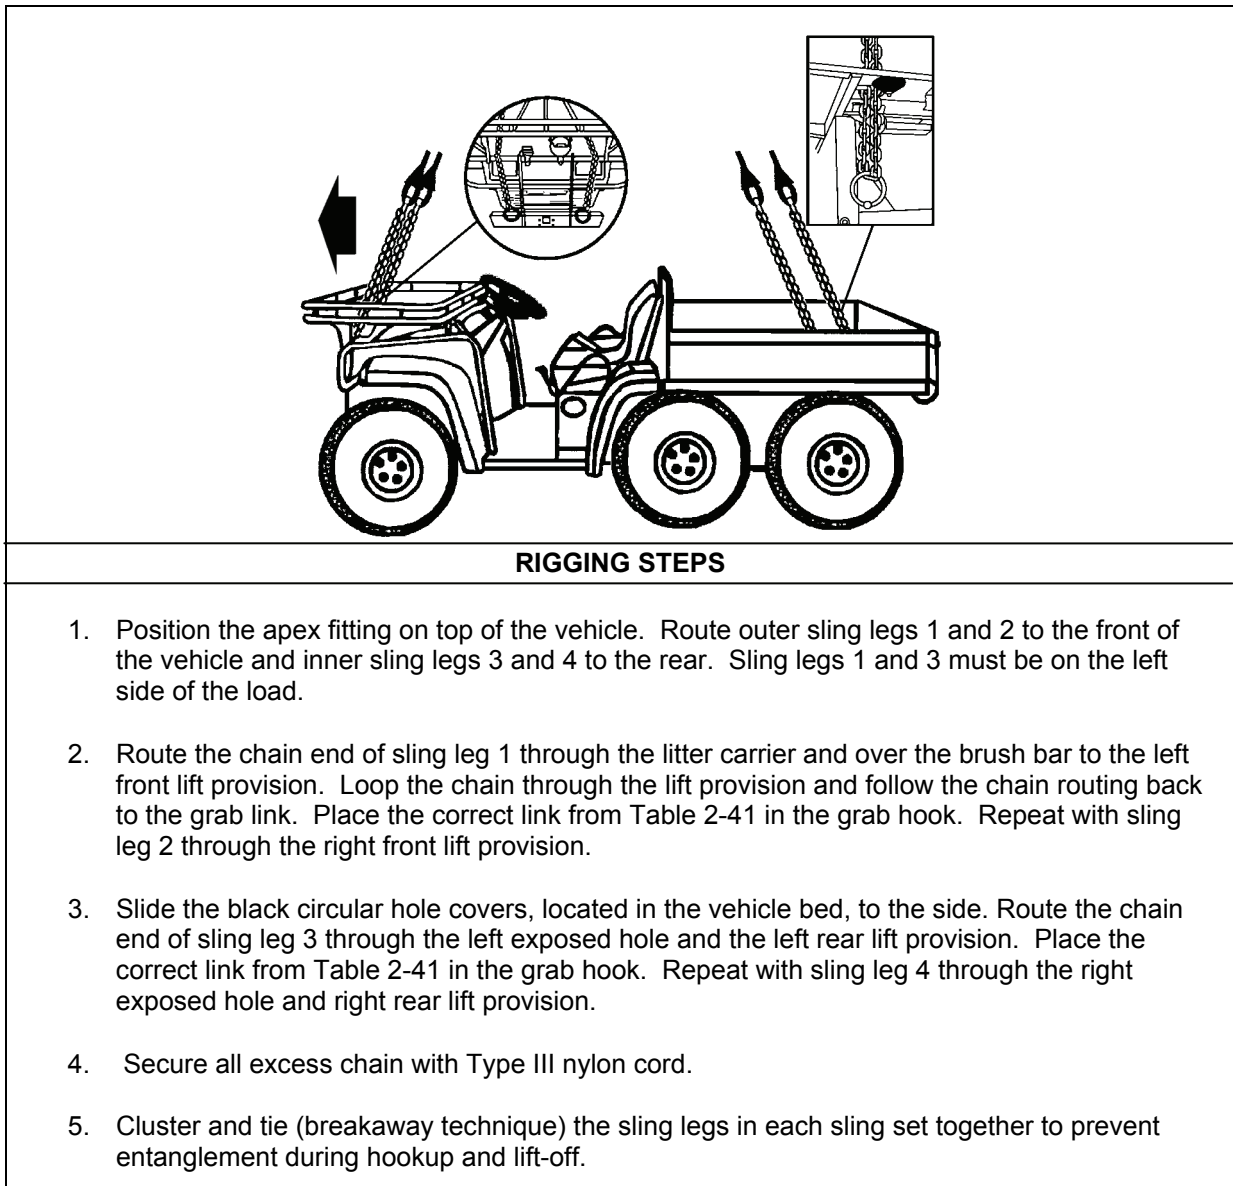

Figure 2-40. John Deere M-Gator (Model #VGM6X01001)
- **Rigging.** Rig the load according to the steps in Figure 2-40.